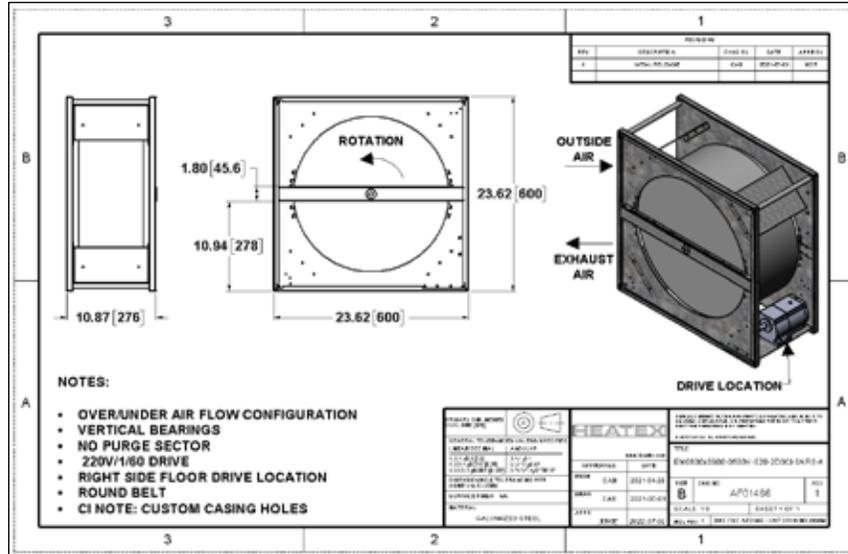

Figure 1. Rotor unit drawing.
- Lift the exchanger in the upper two corner distance pipes according to Figure 1.